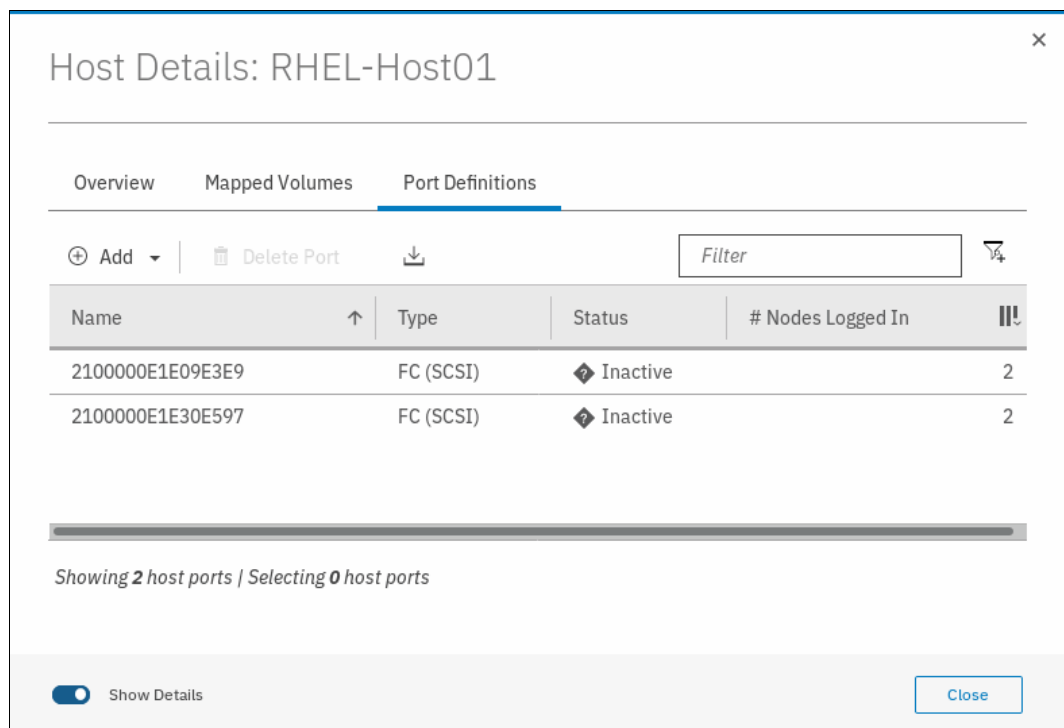

Figure 8-34 Host ports after deletion of a port
4. Click **Delete**. A window opens that indicates that the port deletion Task is completed. Then, a window opens in which the current host ports are listed, as shown in Figure 8-34.